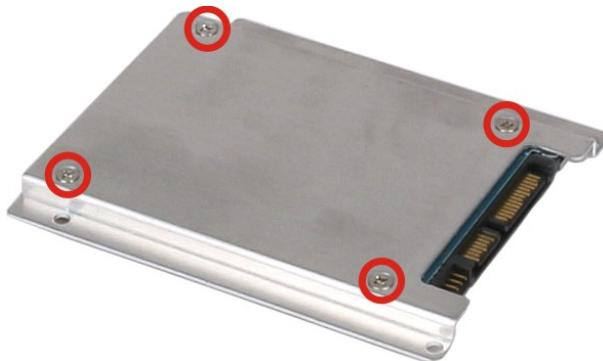

Figure 3-4: HDD Retention Screws
Step 3: Attach the HDD brackets to the HDD. To do this, align the four retention screw holes from the bottom of the HDD bracket with the retention screw holes on bottom of the HDD. Insert four retention screws into the HDD bracket (Figure 3-4).